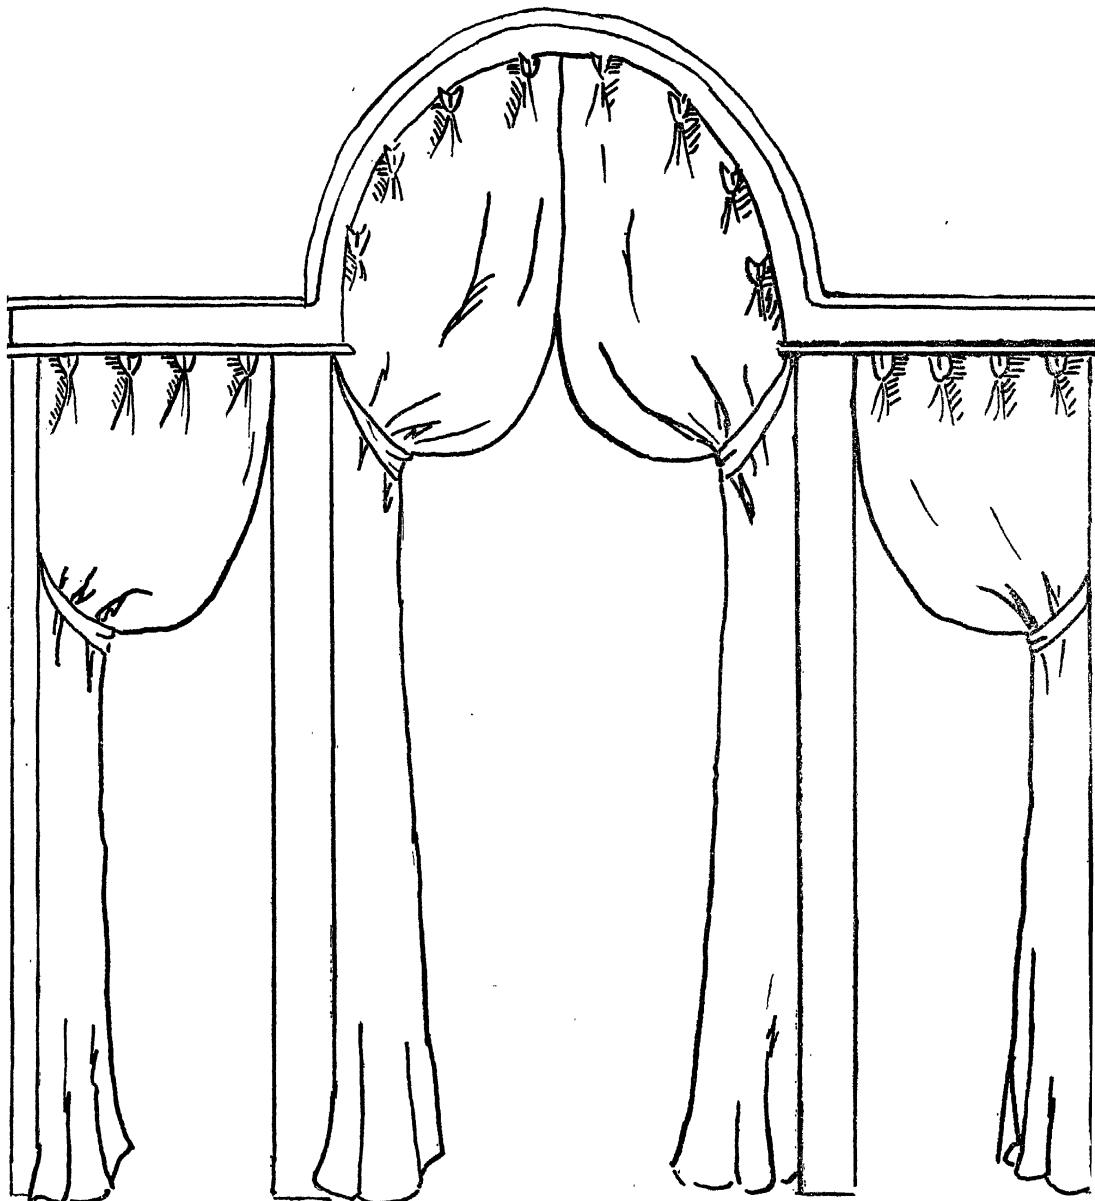
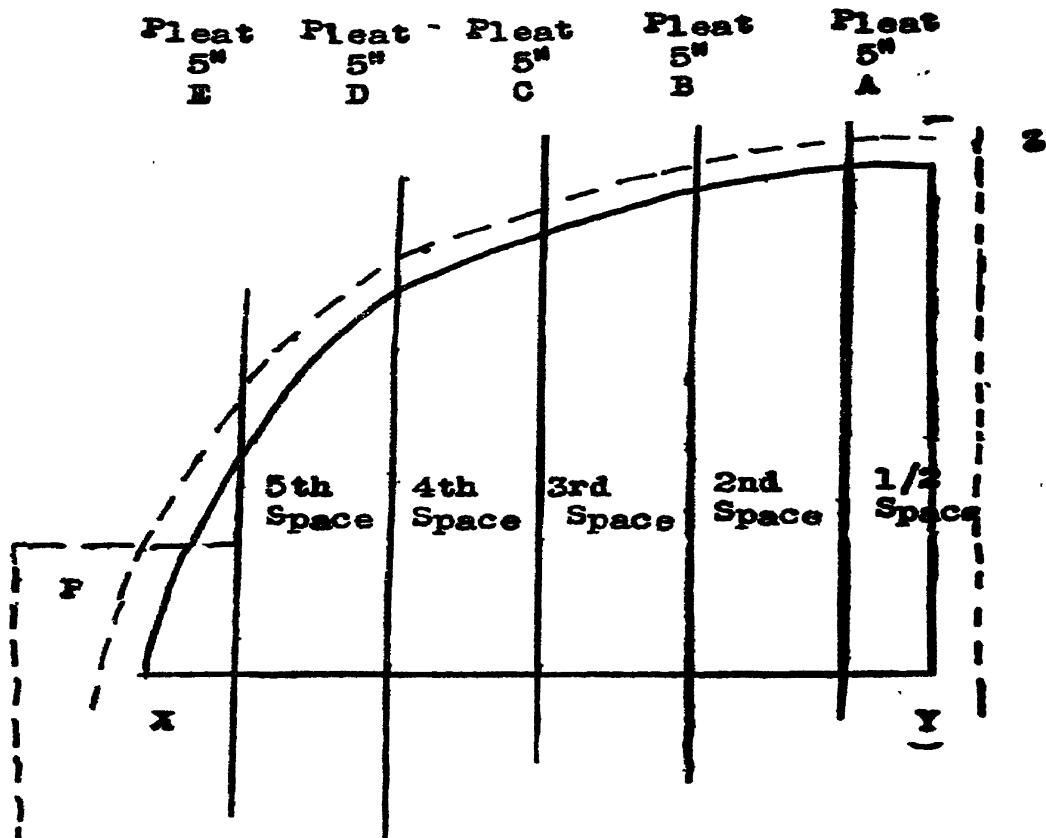
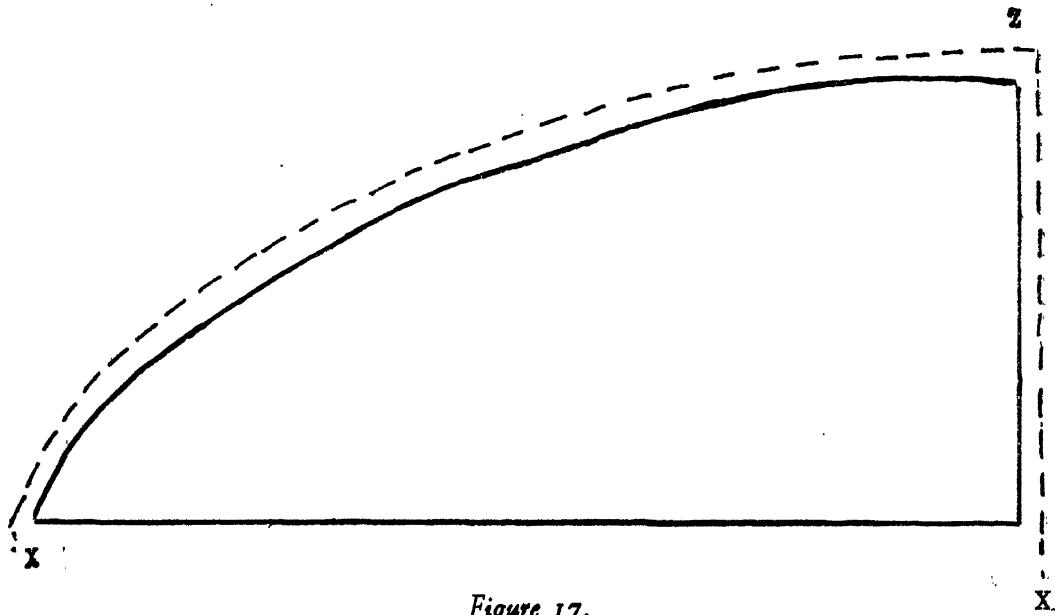

Figure 15.
Figure 16.
Figure 17.
THERE ARE MANY ARCHED TOP WINDOWS, especially in banks, hotels and restaurants. Georgian houses frequently have Palladian windows over the entrance door, or at the stair landing, the center of the group of three being arched. See Figure 15.
There are three considerations in making a pattern for this type of window—the width of the window at the spring of the arch, X-Y, Figure 16 (this represents one-half of the window, the space to which one single drapery of the pair will be fitted); the width of the material, and its weight.
*The complete pattern for cutting to fit the arch, Figure 16.
Line X-X is twice the width of X-Y of Figure 16. The
As the pleats are to be equal distances all around the arch and we do not want two pleats together at the center of the window, we will use a space at that point. The spaces being 5 inches wide, this space will be divided into  $2\frac{1}{2}$  inches for each side, plus hem allowance. The first pleat of each side drapery, therefore, starts  $2\frac{1}{2}$  inches in from the center of the arch, Figure 16.
*Diagram showing how much material is required for draping the curtain up as in Figure 15. The distance A-B is added to the bottom of the drapery at E-F, after allowance is made for hems.*
The number of pleats can be estimated by measuring the line X-Y and dividing by five, the amount of space allotted for each pleat. If the line is 24 inches, for instance, this would give four pleats, plus 4 inches over for side hem allowance. There may be a certain amount left over at the far left of the left-hand curtain and the far right of the right-hand curtain, which will not be sufficient for another pleat. This may be greater or less, depending upon the width of the line X-Y and how it can be divided by five. This unevenness will not make any difference when the space is not large, as you will note by referring to the finished drapery, Figure 15. It merely brings the last pleat nearer or farther away from the spring of the arch, X. However, if the space left over after the pleats have been allotted is nearly enough for another pleat, the space will be too great to leave, as it will bring the last pleat too far up from the spring of the arch. An addition to the full length of the drapery should be made so that another full pleat can be set in. See addition P, Figure 16. The amount added should be enough to complete the pleat and leave a slight margin over.
We now have the spaces marked off and we must make allowance for the pleats. This necessitates another pattern. Draw a line representing twice the length of X-Y if you are using 100% fullness, Figure 17. Also, draw line Y-Z, which is the radius of the arc and is the same as in Figure 16.
Now draw the arc connecting X to Z. This represents the exact pattern for cutting the material to be pleated up to fit Figure 16. Allowance for hems should be made as indicated by the dotted lines.
Lay the drapery, which has already been hemmed and completed, on the pattern Figure 16, the finished hem Z-Y in alignment with Z-Y on the pattern. Pin this securely to prevent slipping.